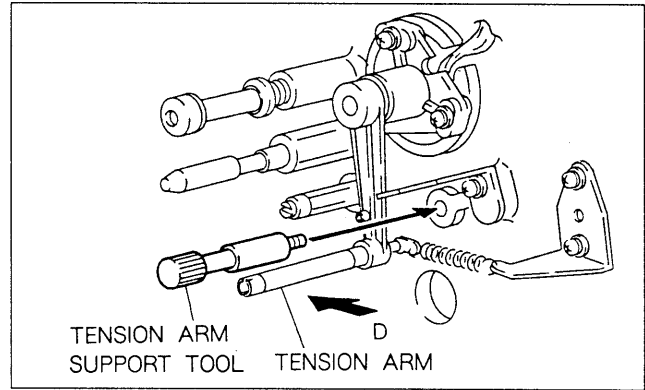

Fig. 9-2-5. Installation of Tension Arm Support Tool
- (1) While pressing the tension arm in the arrow D direction with finger, fix the tension arm supporting tool as shown in Fig. 9-2-5.